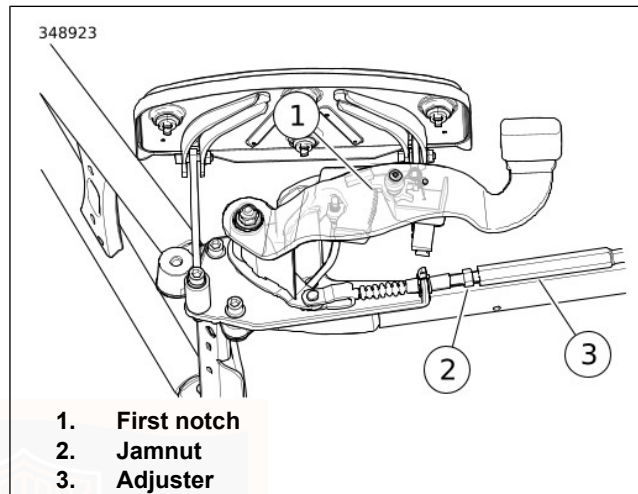

Figure 65. Parking Brake Adjustment
3. See Figure 65. Pull the boot back. Loosen jamnut.